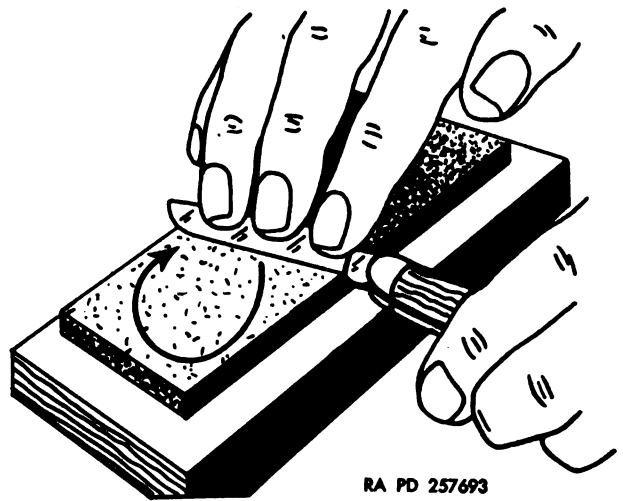

Figure 223. Sharpening a pocket knife.
(1) Most knives are generally sharpened on a medium or fine grade oilstone with a few drops of oil spread on the surface. Hold handle in one hand and place blade across stone. Press down with fingers of other hand and stroke blade following a circular motion as shown in figure 223. After several circular strokes, reverse blade and stroke opposite side, following in same type of motion. Avoid grinding the blade; use a light, even pressure. A thin blade overheats quickly and can lose its temper. The wire edge or bur that may be left on a knife blade after sharpening may be removed by stropping both sides on a soft wood block or a canvas or leather strap as described in paragraph 174a(1) (i).
(2) To sharpen a drawknife blade, place knife blade on stone and tilt it so that the bevel edge lies flat on the stone. Make certain the oilstone is high enough on the bench to provide clearance for the knife handles. Use both hands and, following a circular motion, rotate blade across stone so that the entire length of the bevel contacts the stone. Repeat sharpening on other side of blade. Wire edge can be removed by stropping both sides on a soft wood block or a canvas or leather strap as described in paragraph 174a(1) (i).